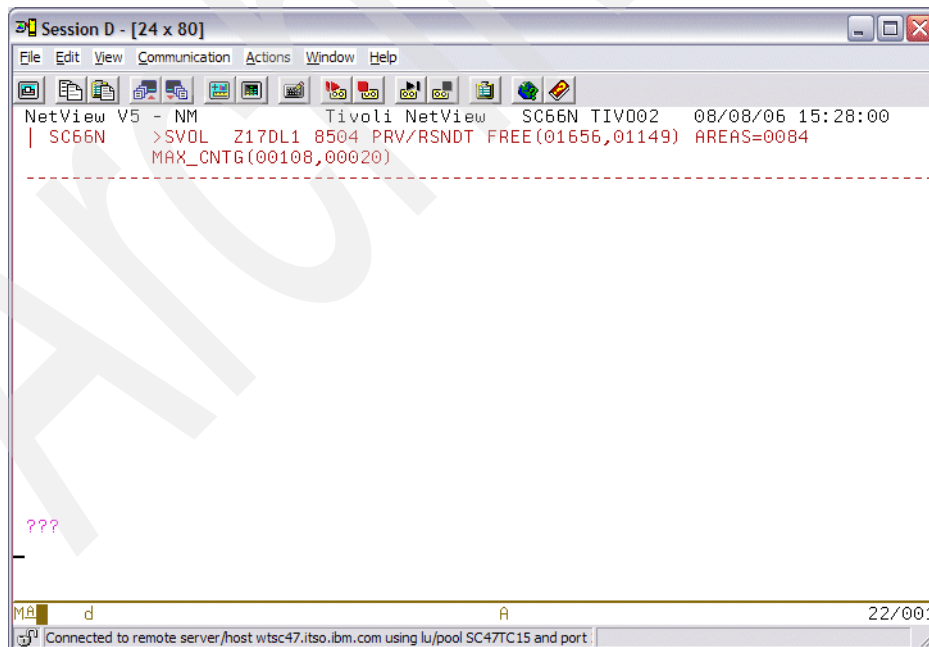

Figure 3-14 SVOL command response
- Some OMEGAMON commands require additional parameters. This is achieved using the PARM keyword of the INGOMX command. An example is the SVOL command that retrieves the DASD volume statistic. The command that we issue is INGOMX EXECUTE,NAME=OMIISC66,CMD=SVOL,PARM=Z17DL1. Figure 3-14 shows the command result.